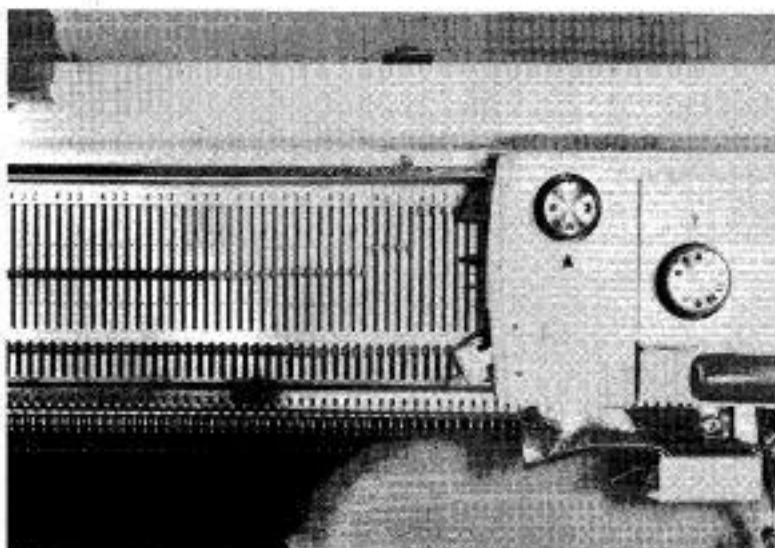

Fig. 103
Leaving the Pattern Control Knob still set at 'A', push back into Position (B) at the end nearest the Carriage a number of needles, which must be the same as or a bigger number than that on the Needle Selection Control Knob opposite the pointer, i.e. when the Needle Selection Control Knob is set at No. 4, push back into Position (B) 4 or more than 4 needles. (Fig. 103)